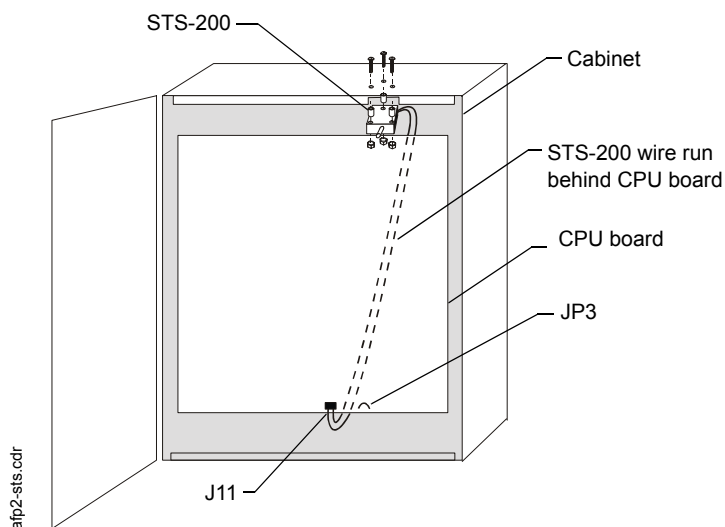

Figure 148 Typical Installation of an STS-200 Tamper Switch
Install an STS-200 Door Tamper Switch	Figure 148 on page 158
1. Mount the STS-200 to the cabinet (Figure 148).
2. Run the wiring behind the CPU board (Figure 148).